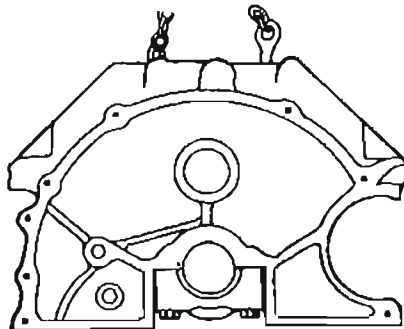

Figure 3
2. If main bearing centerline is above pan rails, (Figure 3) turn Parallels to the down position (Figure 4). If the bearing centerline is more than 3 inches above the pan rail then use the short parallel set. When properly positioned the bearing centerline should be approximately in line with the pivot axis of the cradle.